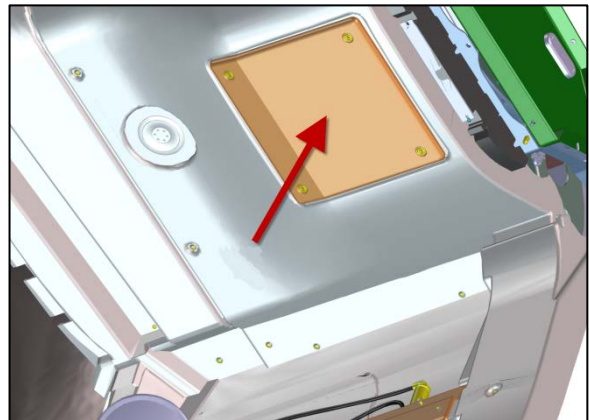

Figure 18
31. Remove front RH roof access panel (Figure 18).